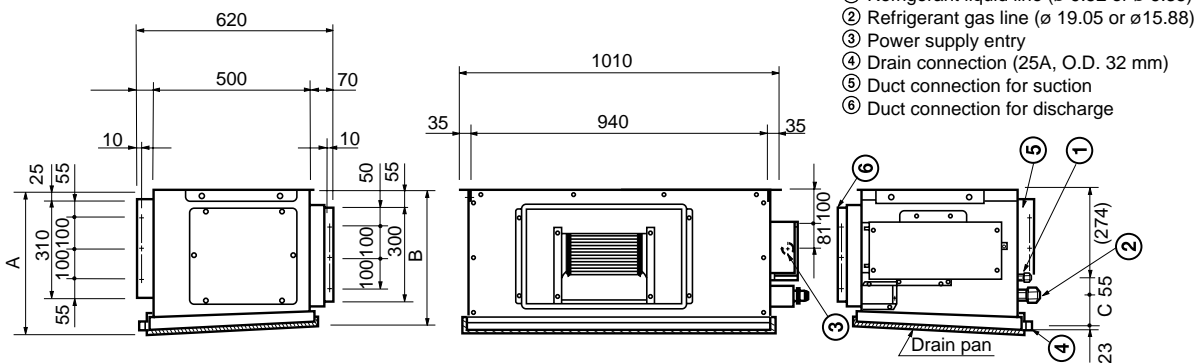

Fig. 3-97
- Fig. 3-97 and Table 3-6 show the detailed dimensions of the indoor unit.